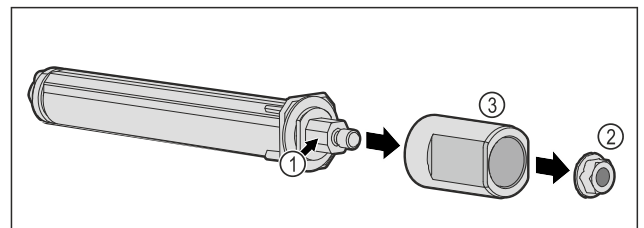

Fig. 46
- Do not dismantle the door locking system Fig. 46 (1).
- Remove the nut Fig. 46 (2).
- Remove the sleeve Fig. 46 (3).